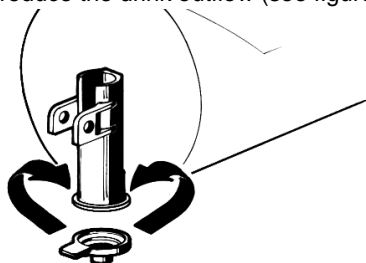

figure 7
- 10 - Restrictor cap: when the unit is used in Soft Drink mode it is advisable to install the restrictor cap on the faucet outlet in order to reduce the drink outflow (see figure 7).